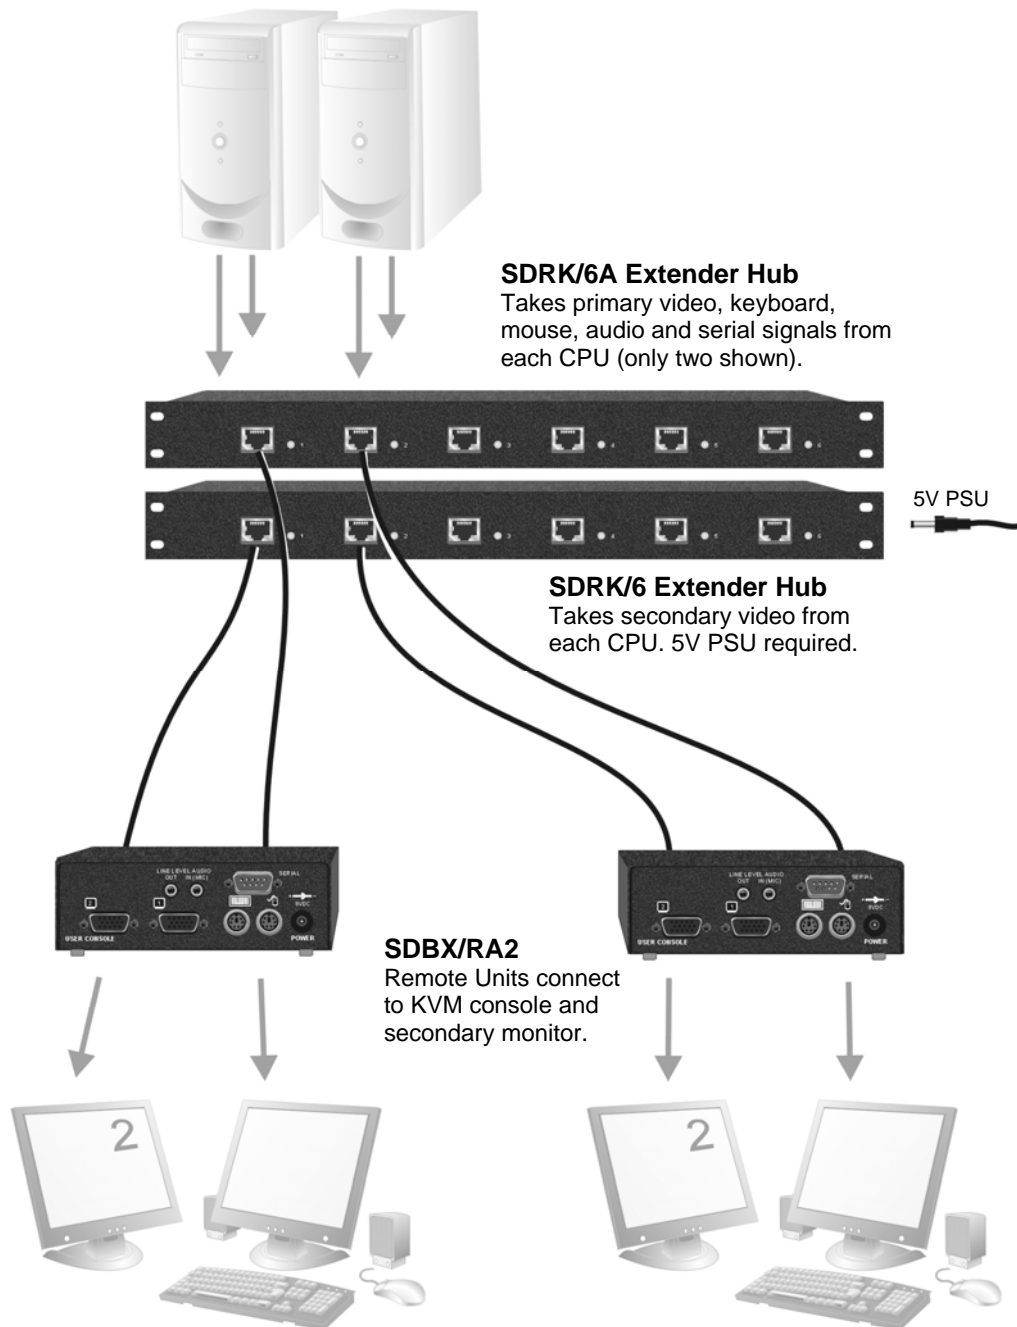

Figure 15 Dual-monitor consoles with serial and audio extension
- Six dual-monitor consoles with serial and audio (Figure 15).